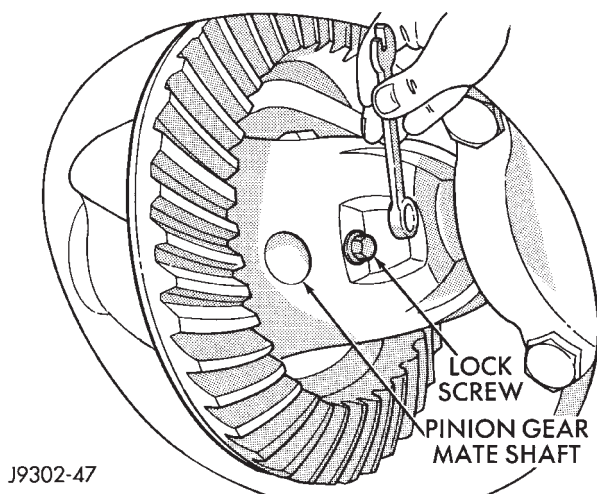

Fig. 65 Mate Shaft Lock Screw
- (3) Remove ring gear, if necessary. Ring gear removal is necessary only if the ring gear is to be replaced. The Trac-lok™ differential can be serviced with the ring gear installed.
- (4) Remove the pinion gear mate shaft lock screw (Fig. 65).